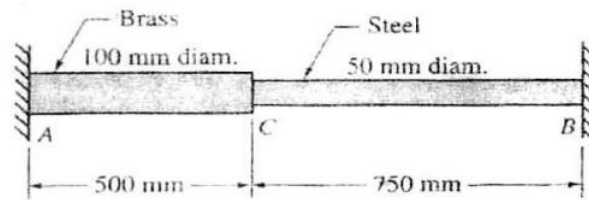

Fig. 4
3. (a) A CI Flat, 300mm x 50mm uniform section as shown in Fig. 4, is acted upon by the following forces uniformly distributed over the respective cross-section, 25kN in the direction of length (tensile); 350kN in the direction of width and 200kN in the direction of thickness. Determine the change in the volume of the flat.